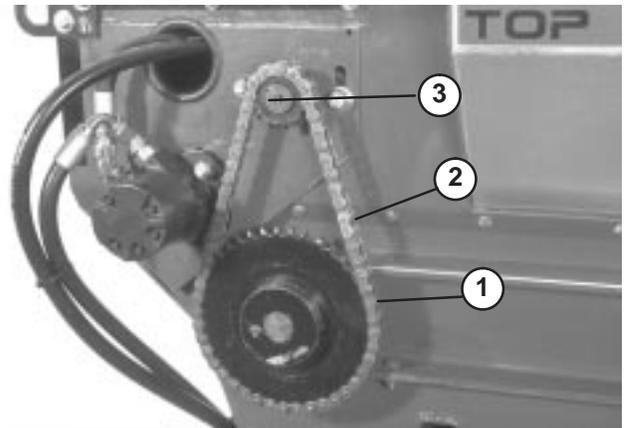

Figure 27
2. Remove master link from chain and remove chain from small sprocket (Fig. 27).